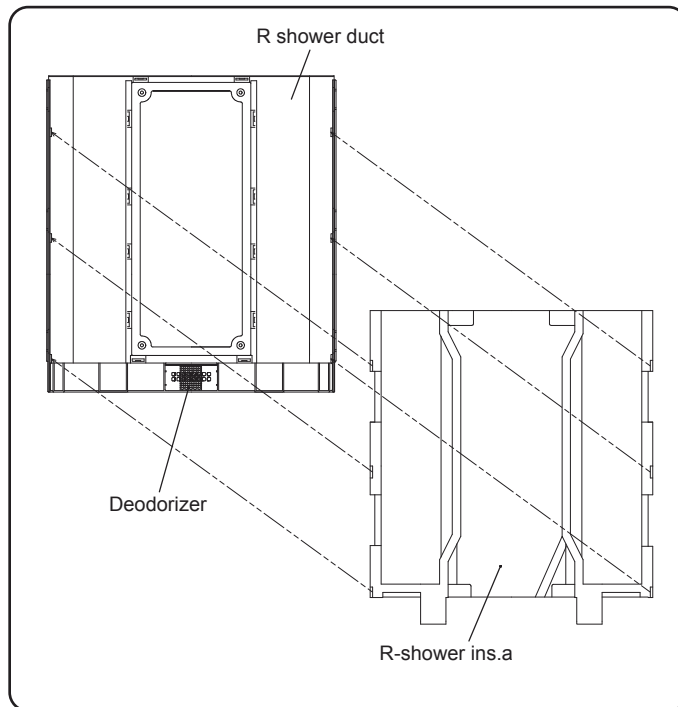

Figure A-12
- 2) Fix R-shower ins.a to "1" ass'y. (Figure A-12)